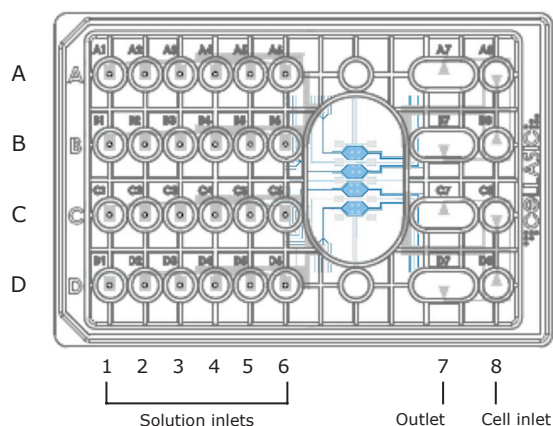

Figure 1. Plate configuration
1. For units to be used (A–D, see Figure 1), replace the PBS in the solution inlet (wells 1–6) and cell inlet (well 8) wells with 100–300 µL of your desired media, e.g., RPMI with 10% FBS. Aspirate and empty well 7 (waste well). Make sure to leave all the wells of any unused units filled PBS solution while emptying well 7.